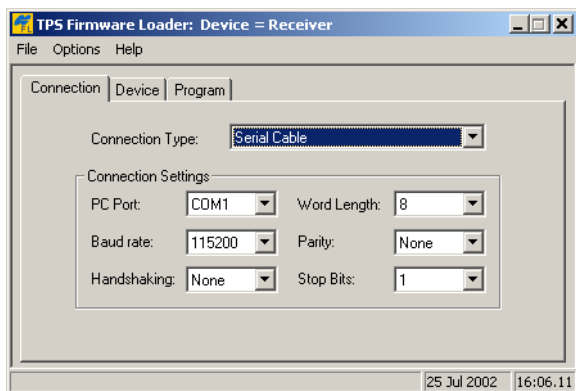

Figure 5-18. FLoader Main Screen
4. On the *Connection* tab, select the COM port on your computer that connects with your receiver and select its speed (usually 115200) (Figure 5-18 on page 5-18).